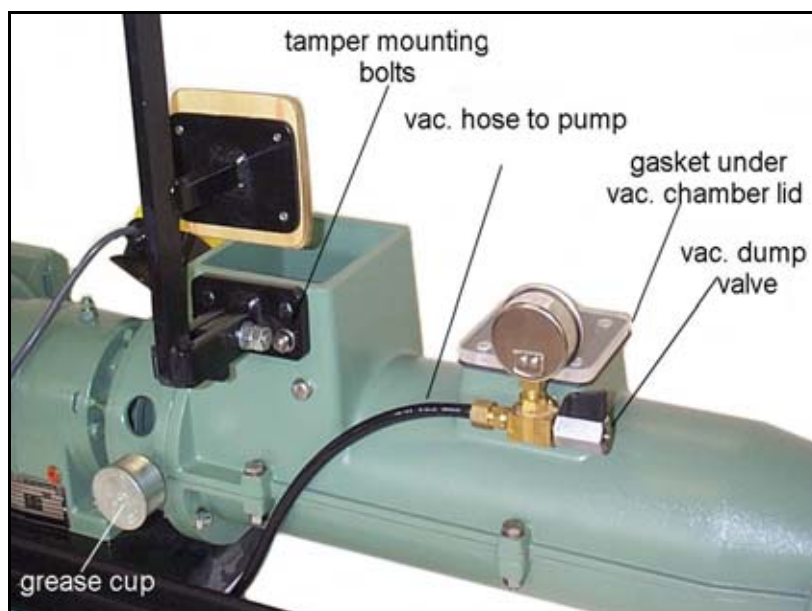

Figure 2: Attaching the tamper lever
Remove the two nuts and washers protruding from the rear of the feed hopper, using a 13mm spanner. Fit the tamper lever bracket to these bolts and secure with the nuts and washers previously removed. See figure 2.
2. Fit one of the vacuum chamber gaskets onto the posts of the clear plastic cover. Place the cover onto the vacuum chamber. See figure 2.
An auger seal is fitted to prevent any clay back feeding into the auger thrust bearing. This seal requires greasing after every 50 hours operation. A grease cup is fitted on the rear side of the pugmill –see figure 2. Sufficient grease is injected with half a clockwise turn of this cup.